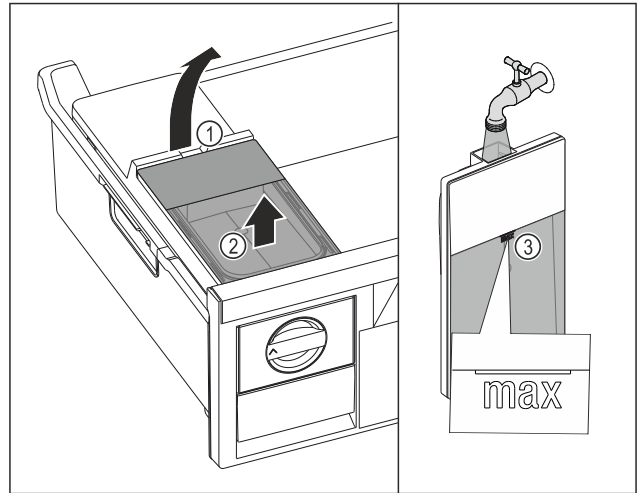

Fig. 128
- ▶ Lift the water tank at the recess Fig. 128 (1).
- ▶ Remove the water tank by lifting it upwards. Fig. 128 (2)
- ▶ Fill the water tank with drinking water up to the mark Fig. 128 (3).